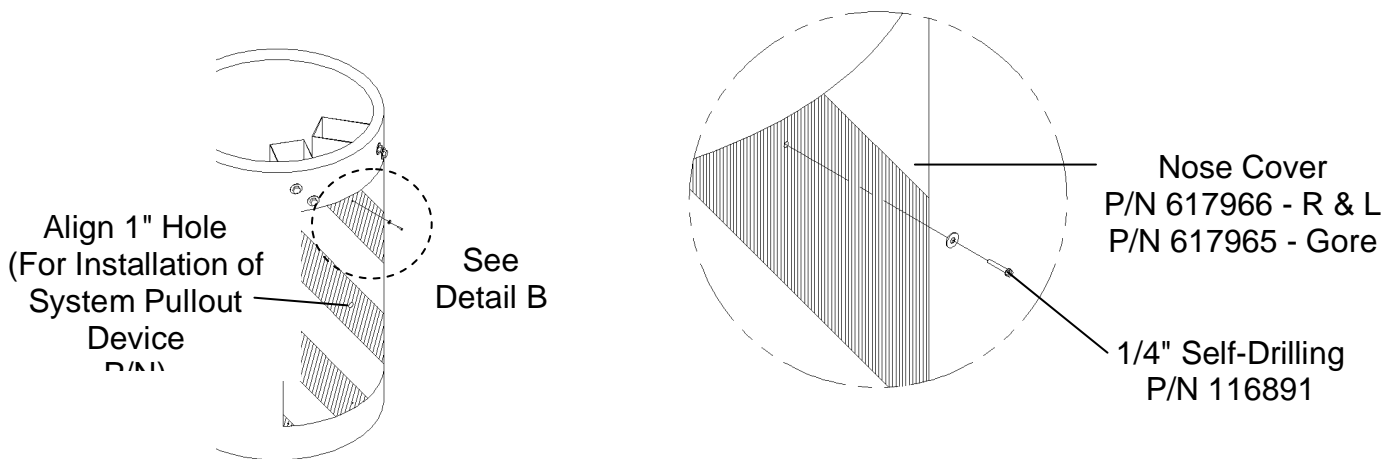

Figure 24
2. Align 1" diameter hole in Nose Cover with 1" diameter hole in cylinder, see Figure 24.